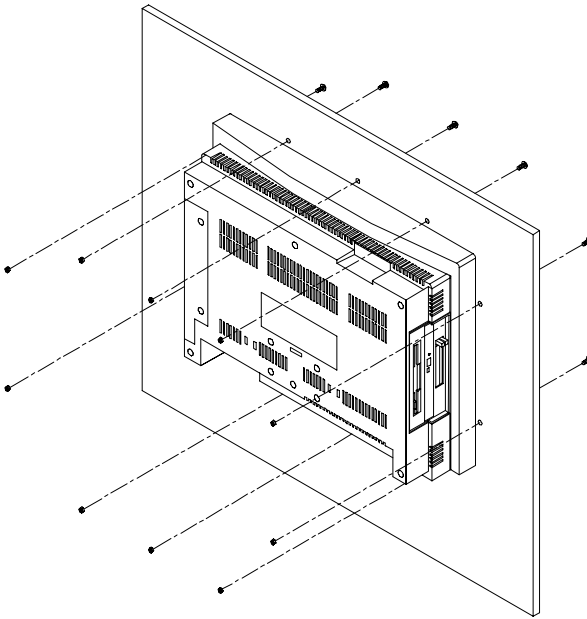

Figure E-2: Panel mounting
2. Insert the screws from the front side into the holes and tighten them with the nuts provided. (See Fig. E-2)